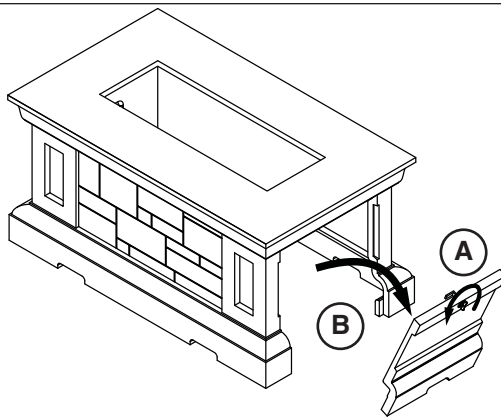

Fig. 16-3 Remove door
Note: 652 has a storage door. Remove the door by first turning the door handle counter-clockwise, then carefully pulling the door outward (see Fig. 16-3). Store in a safe location.
2. Remove the storage door by first turning the door handle counter-clockwise, then carefully pulling the door outward (see Fig. 16-3). Store in a safe location.